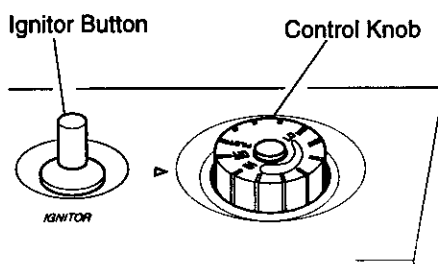

Figure 16 - Control Knob In The OFF Position
4. Wait five (5) minutes to clear out any gas. Then smell for gas, including near the floor. If you smell gas, STOP! Follow "B" in the safety information, page 11, column 3. If you don't smell gas, go to the next step.
5. Turn control knob counterclockwise to the PILOT position. Press in control knob for five (5) seconds (see Figure 16).